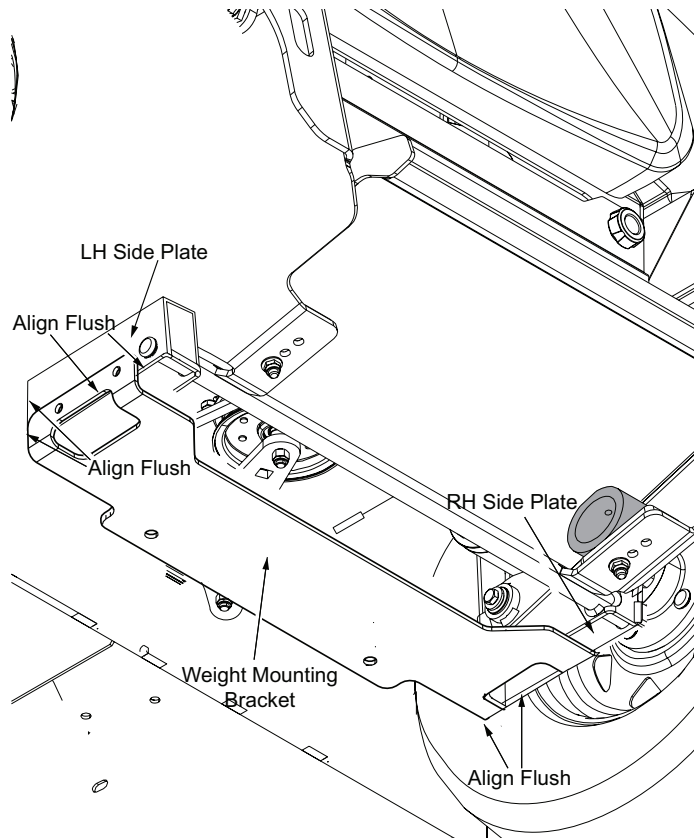

Figure 2.
5. Align the weight mounting bracket flush with the bottom and front of the side plates on the left and right hand sides. See Figure 2 on page 2. Once the bracket is positioned properly with the bottom and front of the side plates, clamp the weight mounting bracket in place.